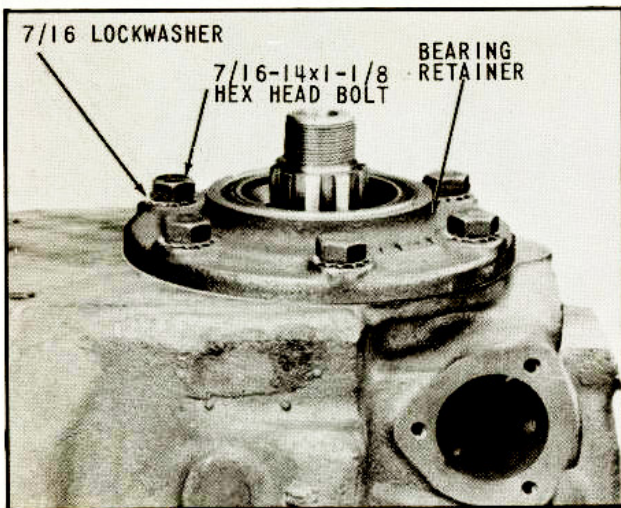

Fig. 26 Assembling Bearing Retainer on Rear of Case
28. Remove six (6) hex head bolts and lockwashers, (Fig. 26).
14. Place bearing retainer in place on rear of case as shown in (Fig. 26).